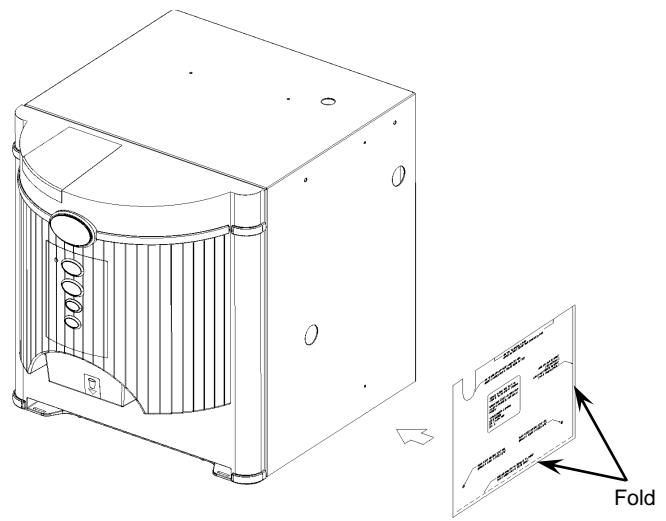

Figure 2a – Cut, fold and align the template.
3. Align the template with the lower hole on the side of the Piccolina, and with the bottom and the rear of the machine (*figure 2a*).